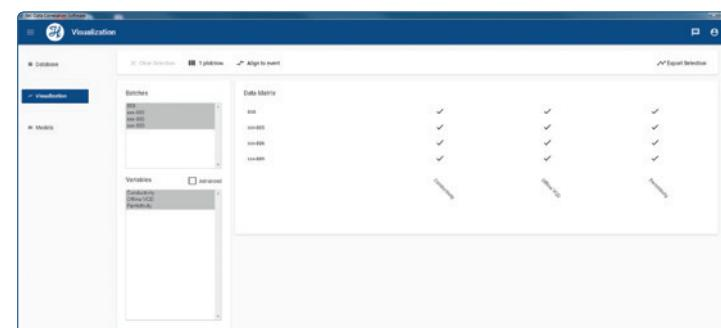

Figure 51: Basic Data Matrix for visualisation
- 1) In the standard view it is possible to select one batch for visualization by selecting this in the data matrix. It is possible to select just one or all values of the selected data by activating the row (figure 51).